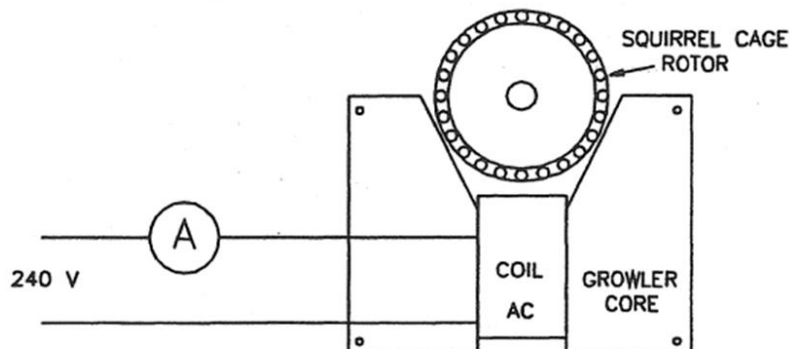

Figure 6 - Testing a small rotor for open circuits.
30. Relatively small squirrel cage rotors can be checked for open circuits using an external growler - the same as the type used for testing small armatures. Safely connect a suitable a.c. ammeter in series with the growler coil and place the rotor on the growler - as shown in Figure 6. Energise the growler and rotate the rotor by hand - if there is a variation in the reading as the rotor is rotated it indicates that there is an open circuit in the rotor winding.